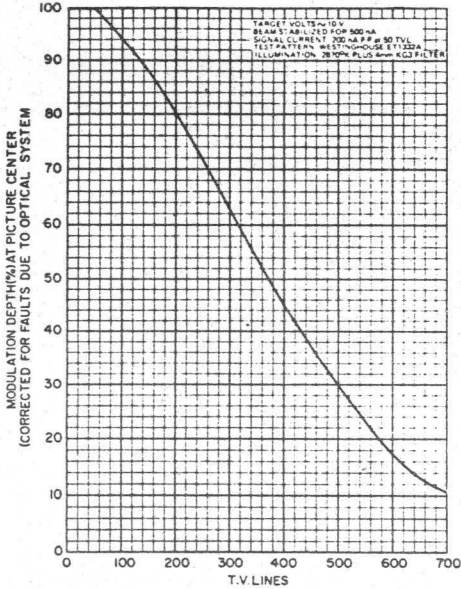

Figure 1 Sivicon Typical Uncompensated Horizontal Square Wave Response - Optically Corrected
20. Measured with 100% contrast square wave test pattern, normalized at 50 TVL, and corrected for lens resolution losses. The bandwidth of the camera amplifiers used are flat to beyond 5 MHz. For response curve see Figure 1.
Resolution, Central (See Figure 1) Limiting (19)	750 TV Lines